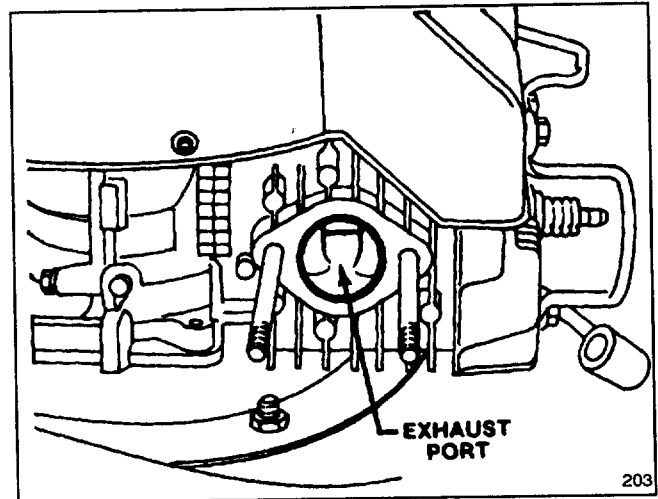

Figure 19
3. Pull wire off spark plug. Slowly pull recoil starter so piston covers exhaust port (Fig. 19).
4. Clean carbon from exhaust port (Fig. 19) with flat, hard wood scraper.